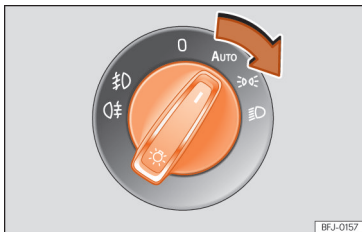

Fig. 107 Dash panel: lights control.
- Turn the switch to the required position »» **Fig. 107**.